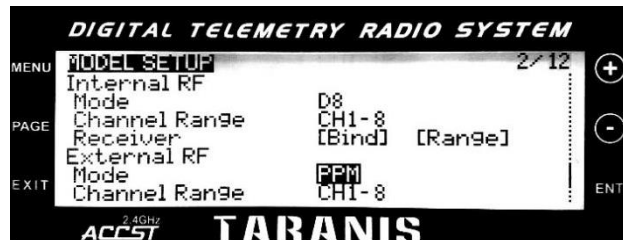

Figure 4 - PPM mode configuration on TARANIS X9D PLUS RC.
- Scroll down until you find the *External RF* configuration section, as shown in figure 4.